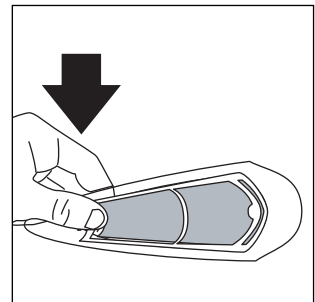

Fig. 17
- 2) Press the base of the frame at the bottom of the grill (Fig. 17).